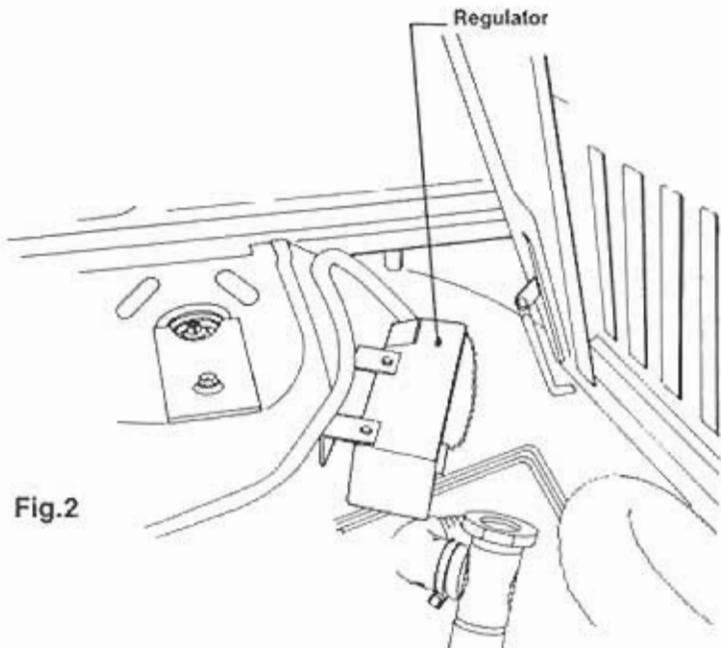

Fig. 2
3. Align regulator brackets with lower edge of shock tower bracket. Mark and drill $2, 3/16$ " holes. Install regulator using $1/4$ -14 self-tapping screws. Fig. 2.